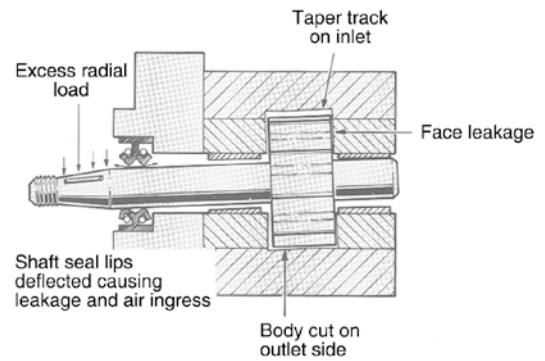

Figure 5: Typical unbalance loading condition of an external gear pump
- 1) Excess tension of belt drives may pull the shaft to one side – inspect for correct belt tension as recommended by the manufacturers. Ensure belt is correct length. Check for belt and pulley alignment. The unbalanced loading condition is shown in Figure 5.